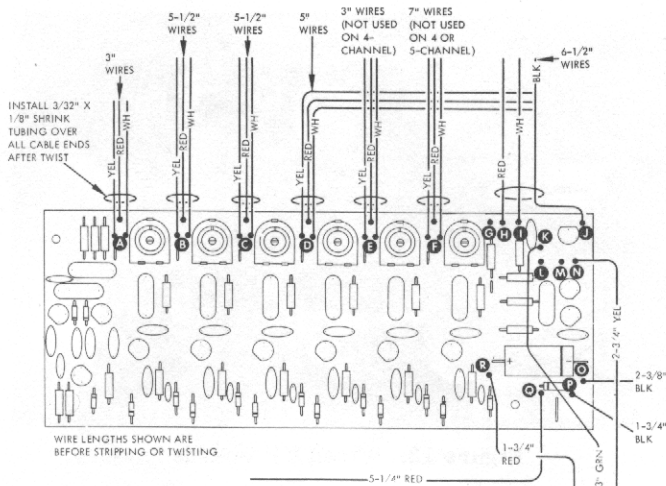

Figure 10. Logic Board Wiring (Two-Stick)
- 119. Insert one end of yellow, red and white wires from Group "A" into proper holes on logic board at position Ⓐ, and solder in place. (See figures 10 and 11.)
- 121. Solder proper length Group "C" wires into position Ⓒ holes. (See figures 10 and 11 for positive wire length identification.)
- 123. On 5 and 6-channel models, solder proper length Group "E" wires into position Ⓔ holes (figures 10 and 11).
- 124. On six-channel models, solder correct length Group "F" wires into position Ⓕ holes (figures 10 and 11).